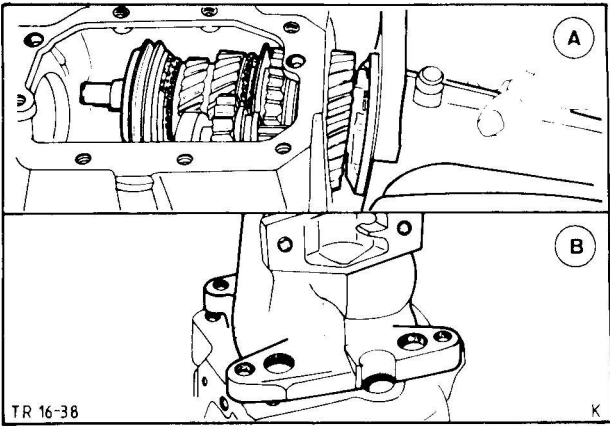

Fig. 53. A/B – Fit extension housing and then turn so that hole for countershaft is accessible
44. Fit extension housing with mainshaft and then turn housing so that the countershaft can be installed, Fig. 53.